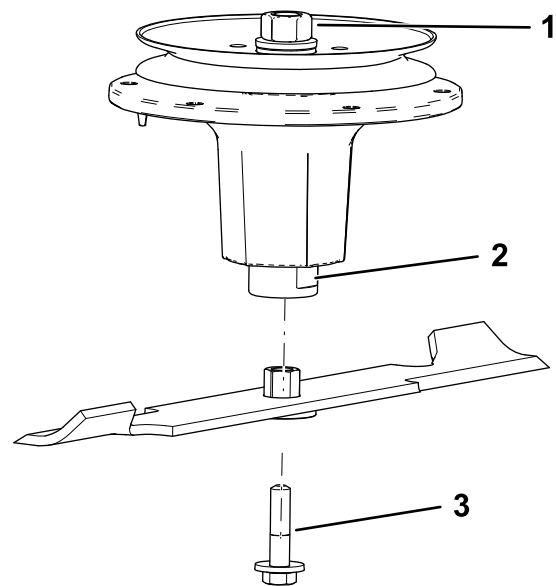

Figure 98
2. Install the bushing/blade assembly into the spindle shaft (Figure 98).